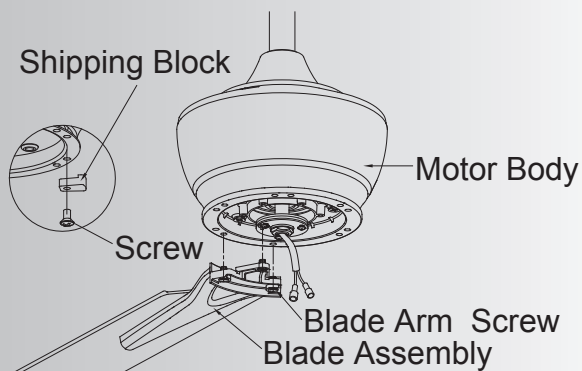

Fig. 18
**Step 2.** Remove and discard the three stabilizers tabs and screws. Fasten blade assembly to the holes located on the bottom of the flywheel. Tighten the two "pre-installed" motor screws in the blade arm. Repeat steps for the remaining blades assemblies. (Fig. 18)